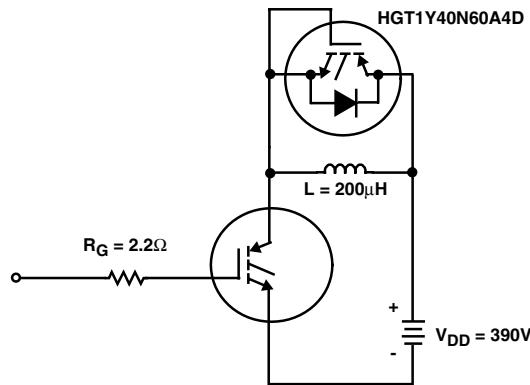

FIGURE 20. INDUCTIVE SWITCHING TEST CIRCUIT
3. Values for two Turn-On loss conditions are shown for the convenience of the circuit designer.  $E_{ON1}$  is the turn-on loss of the IGBT only.  $E_{ON2}$  is the turn-on loss when a typical diode is used in the test circuit and the diode is at the same  $T_J$  as the IGBT. The diode type is specified in Figure 20.